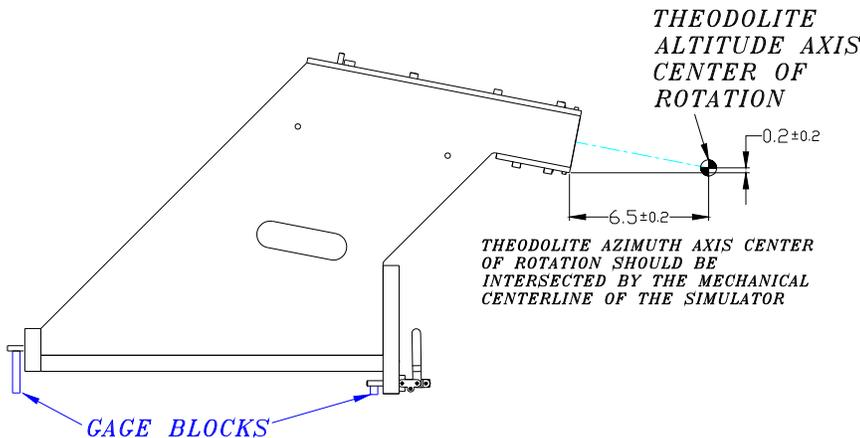

Figure 4. Side view of HUD Simulator in upright position
F. Set up the Theodolite at the position indicated in Figure 4.